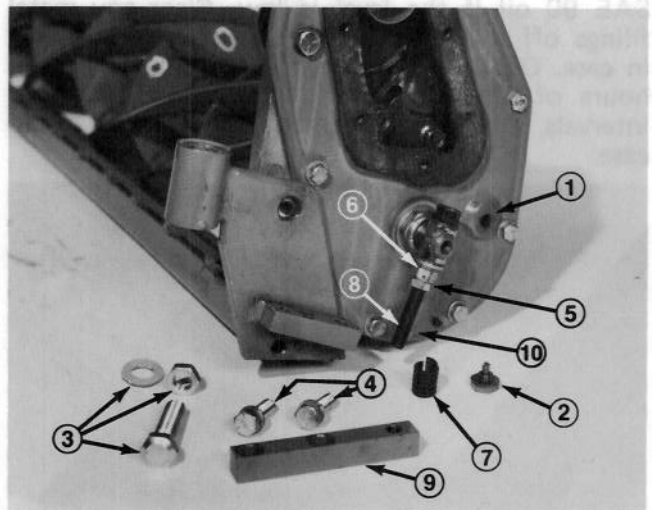

Figure 8
3. Remove the drain plug and drain the oil from case (Fig. 8).
4. Loosen jam nut and full nut securing adjustment screw (Fig. 8), thread adjustment screw out of reel adjustment block and remove screw and assembled parts from reel shaft (Fig. 8, 9).